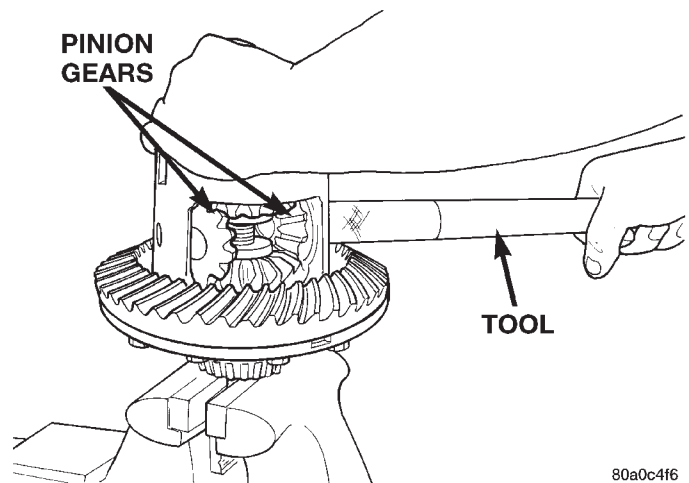

Fig. 50 Pinion Gear Removal
(12) Insert Turning Bar 6960-2 in case. Rotate case with tool until pinion gears can be removed (Fig. 50).